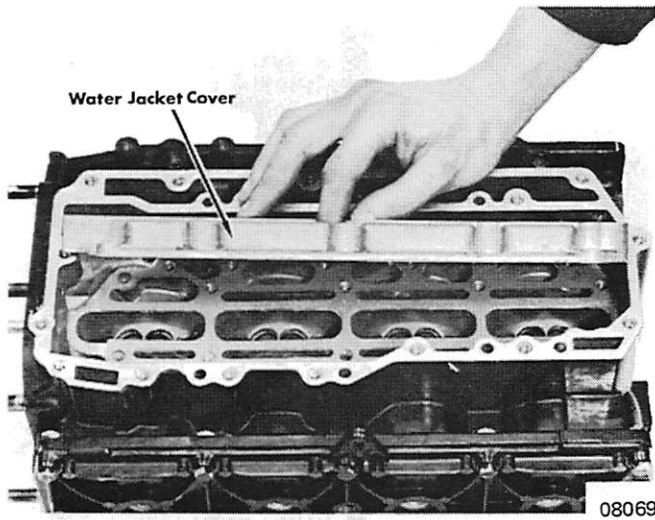

Figure 6. Removing Water Jacket Cover
6. Remove screws from water jacket cover and remove cover. (Figure 6)